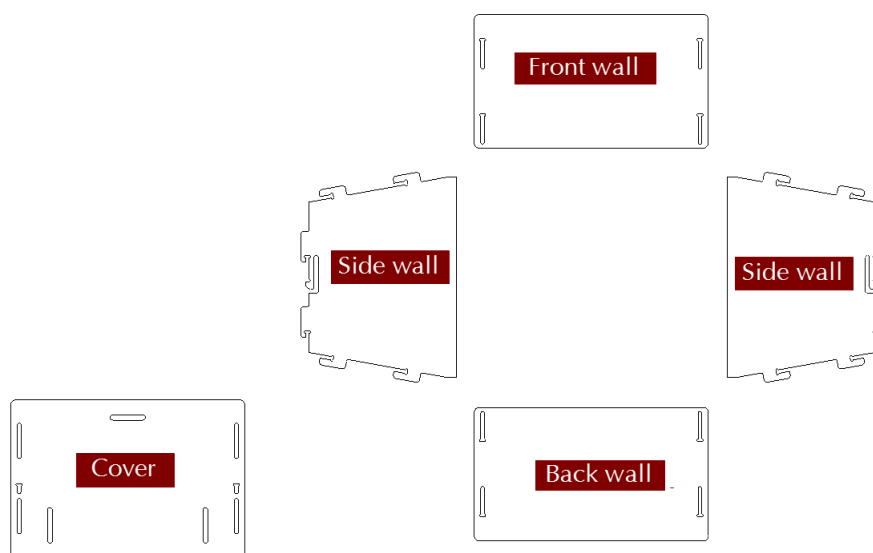
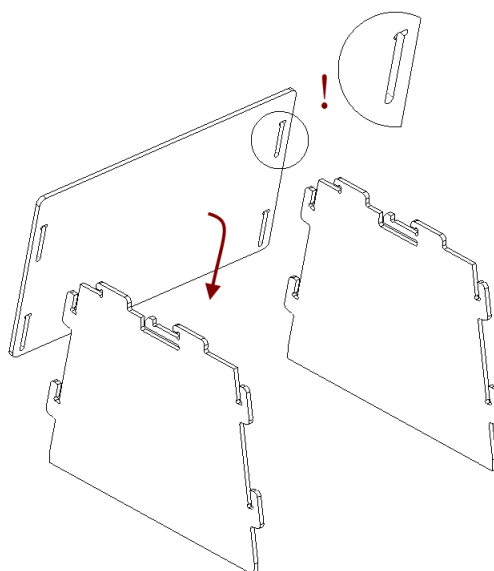
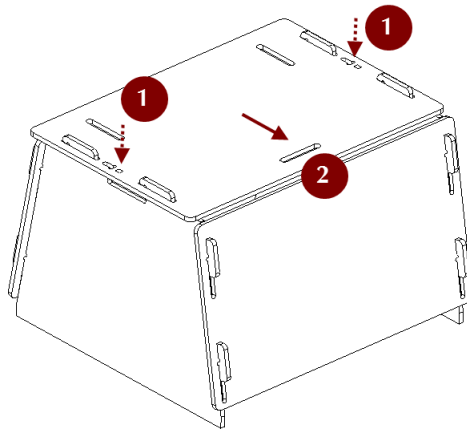

Figure 221: Parts of the scanner stand.
Figure 222: Assembling the front wall.
Figure 225: Latching the cover.
The scanner stand comes unassembled with Artec Spider and consists of five parts (see Figure 221): two side walls, one front and one back wall (these parts are identical, however), and a cover. Before beginning assembly, lay them all out as Figure 221 shows. Then follow these steps:
1. Raise the two side walls to the upright position, as Figure 222 shows. Noting carefully the orientation of the T-shaped slot, install the front wall to the side walls using the two pairs of hooks. Press the front wall and slide it down against the stop. Make sure the three walls are properly aligned with each other.
4. Press your thumbs against the T-shaped holes on the cover and shift it toward the back wall until you hear a click (see Figure 225).
Note: To disassemble the stand, release the detents in the cover's T-shaped slots (see Figure 221) using a thin object like a ballpoint pen. Repeat the assembly steps in reverse order (from Figure 225 to Figure 222), moving the parts in the opposite directions.